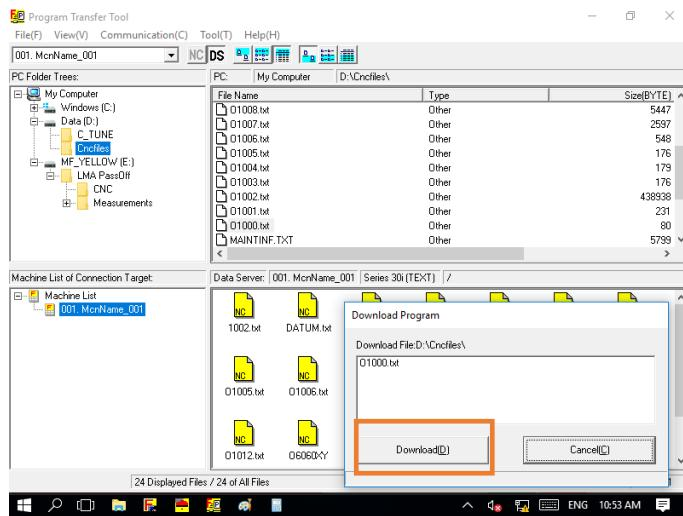

Figure 27 - Download Program dialog box
The “Download Program” dialog box opens. See (*Figure 27 - Download Program dialog box*).
8. Select a different Canned program to clear the current program and repeat the above steps to transfer the program. See (Figure 27 - Download Program dialog box).